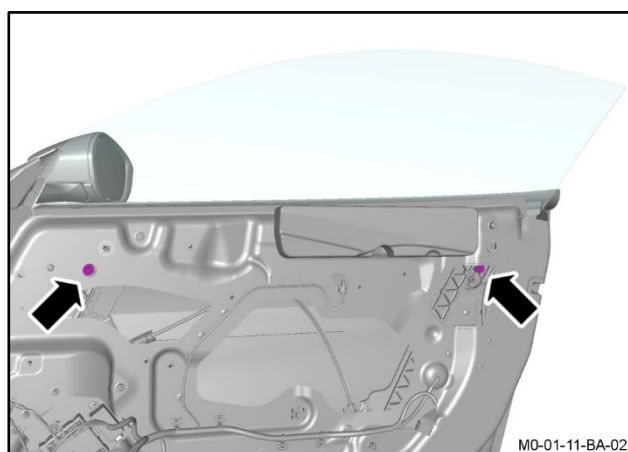

Figure 12
21. Remove the two bolts that attach the door glass to the regulator assembly (refer to Figure 12).